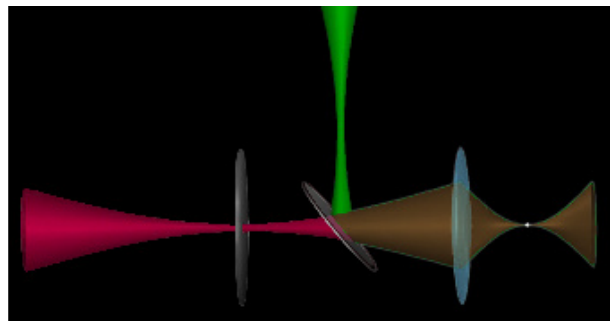

Figure 1: Confocal Illumination & Signal Collection.
For confocal fluorescence measurements, a laser beam is focused in a fluorescent sample with a high numerical aperture (NA) objective. Fluorescent particles illuminated by the laser emit fluorescence. In **Figure 1**, below, the laser beam is represented by the green beam.
Figure 1 also illustrates the path of light emitted from the fluorescent sample (right) to the detector (left, not shown). Emitted light passes first